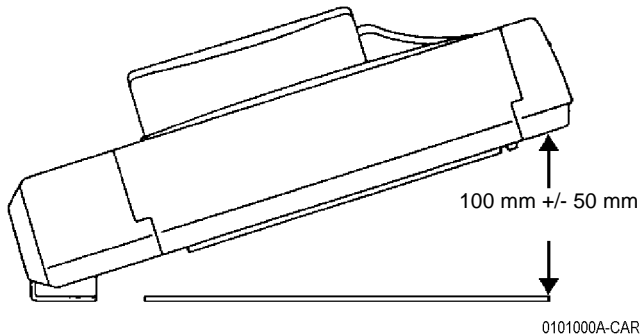

Figure 1 Checking DADF Height
- b. Check that the DADF closes from a height of  $100 \pm 50$  mm by its own weight without excessive noise (Figure 1).